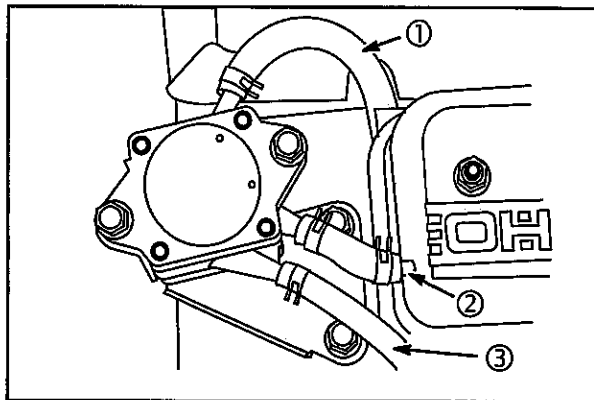

Fig. 11
The fuel pump is actuated by pulsating crankcase vacuum from the engine. The vacuum pulse fitting (2), **Fig. 11** is installed on the No. 1 cylinder valve cover.